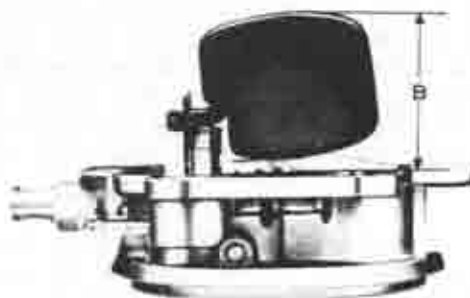

Fig. 4-9. Float level adjustment
Then adjust the fuel level by means of the washer at the fuel inlet, so that the distance (B) between the upper face of the float and the lower face of the air horn is 46 – 47 mm (1.8 – 1.9 in), as shown in Fig. 4-9. Under this condition, fuel level is kept at the center of the bowl cover.